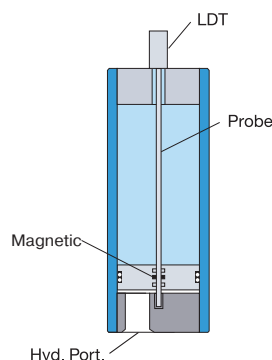

Fig. 14d Linear Displacement Transducers (LDT) can accurately detect both piston location and velocity
- When it is required to know the exact location of the piston inside the accumulator, use a linear displacement transducer (LDT) (Fig. 14d). Positions as well as velocity can be determined by the use of this unit. An LDT works by sending a signal down the probe. This signal is then reflected by a magnet attached to a rod and piston assembly. The LDT records the amount of time between sending and receiving the reflected signal and then calculates the position of the piston. Multiple signals will allow the unit to calculate velocity. Using this unit will allow the user to know the exact volume of fluid in the accumulator as well as the flow rate of the fluid.